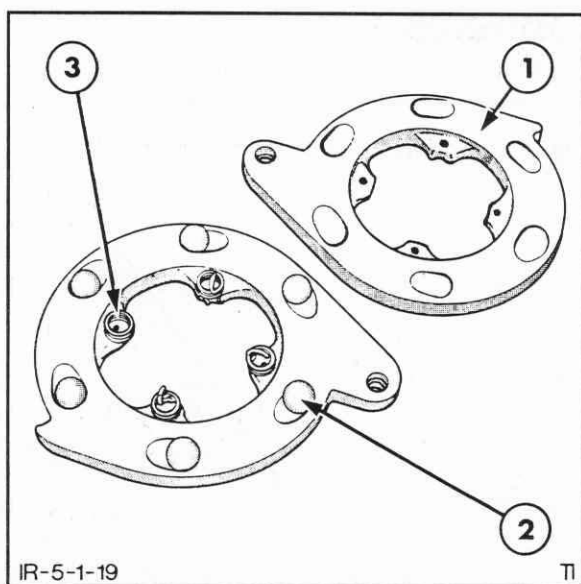

Figure 5-19
2. Remove the four actuating disc return springs and separate the actuating discs, Figure 5-19.